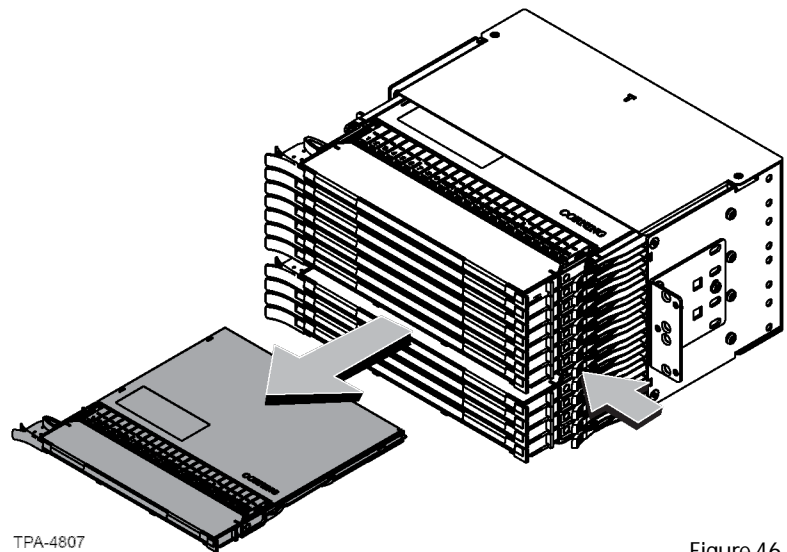

Figure 46
Step 1: If the cassette is installed in the housing, press the latch on the right side of the housing next to the cassette to be removed (Figure 46). Then pull the cassette out of the housing.